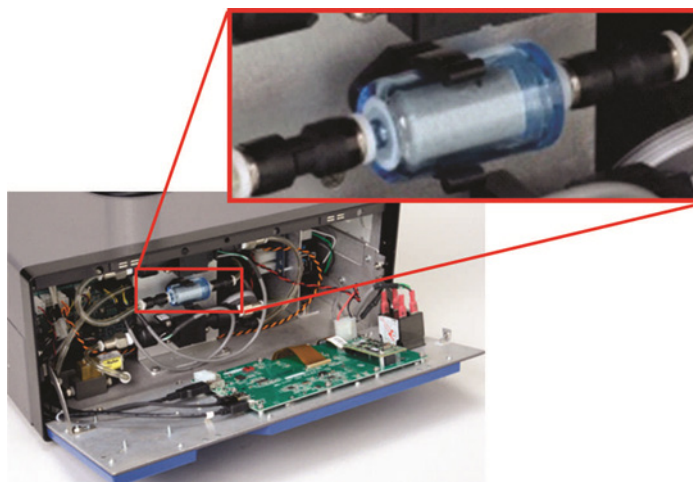

Figure 4. Internal DFU.
5. Noting its orientation, remove the old DFU by detaching it from the pneumatic quick-connect fittings, and replace it with a new DFU in the same orientation (Figure 4).